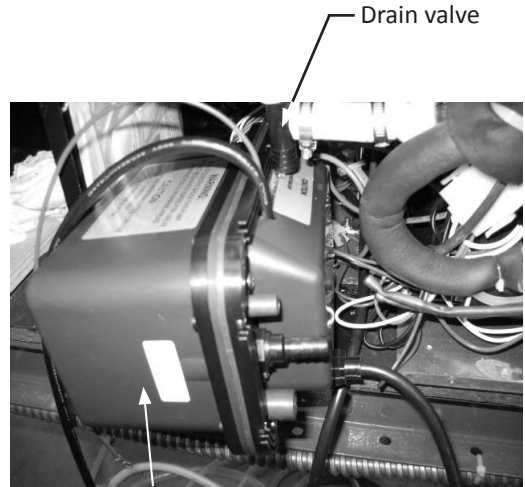

Figure 25
4. Rotate the drain pump and remove from the ice machine, (See Figure 25). It may be necessary to disconnect the ground wire connection in the back flange of the cabinet. (See Figure 26).